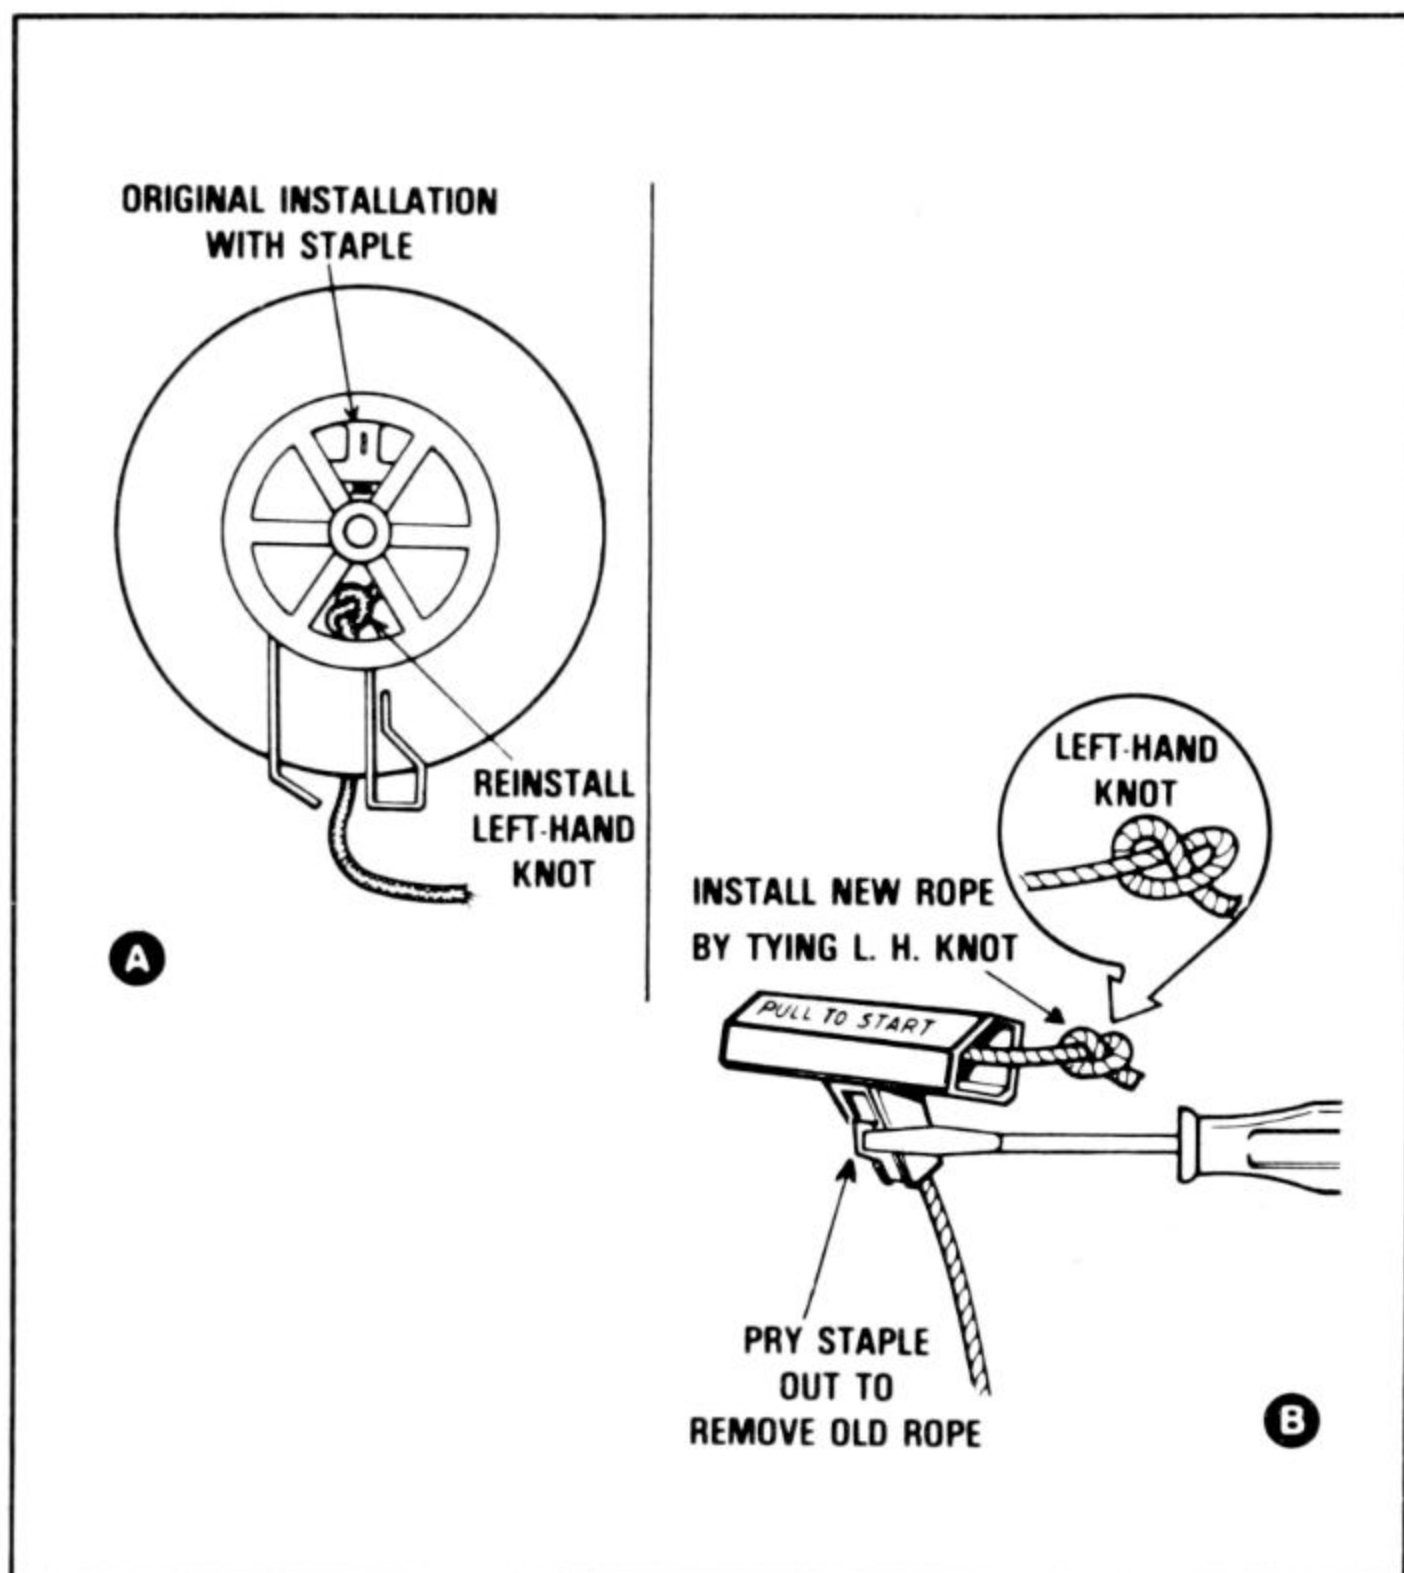

Fig. 4-37. Replacement rope anchors with knot, rather than staple, and mounts 180° from original position on sheave.
2. Insert one end of rope into sheave, 180° away from original (staple) mount (A of Fig. 4-37).
4. Install handle (B of Fig. 4-37).